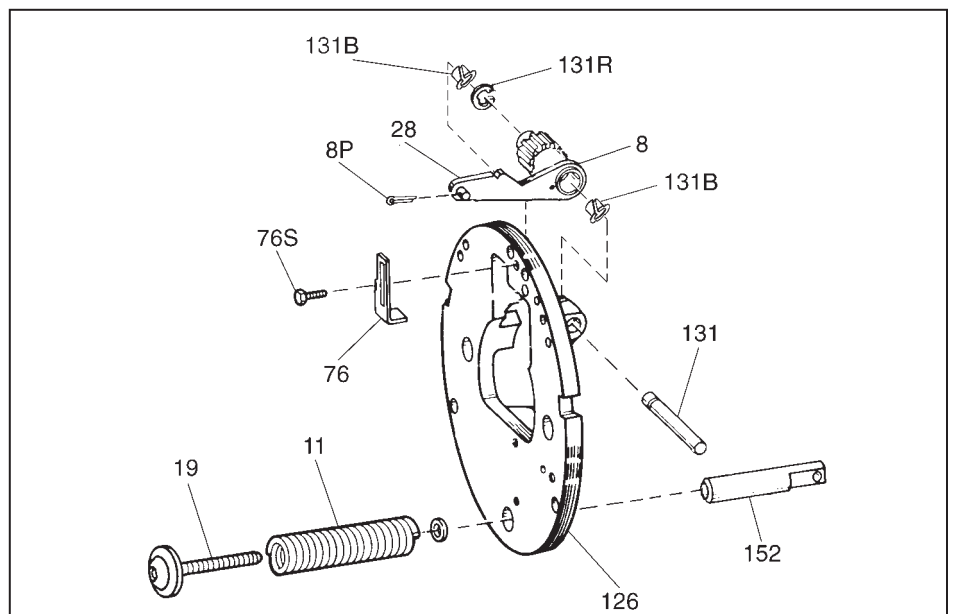

Figure 2
5. Insert new pivot pin (131) into the new solenoid lever and pinion assembly (8) making sure that the two Nyliner bearings (131B) are in place. (Insert the pivot pin as shown in figure 2, so that the retaining ring groove is to the toothed end of the pinion when the pin is in its final operating position)